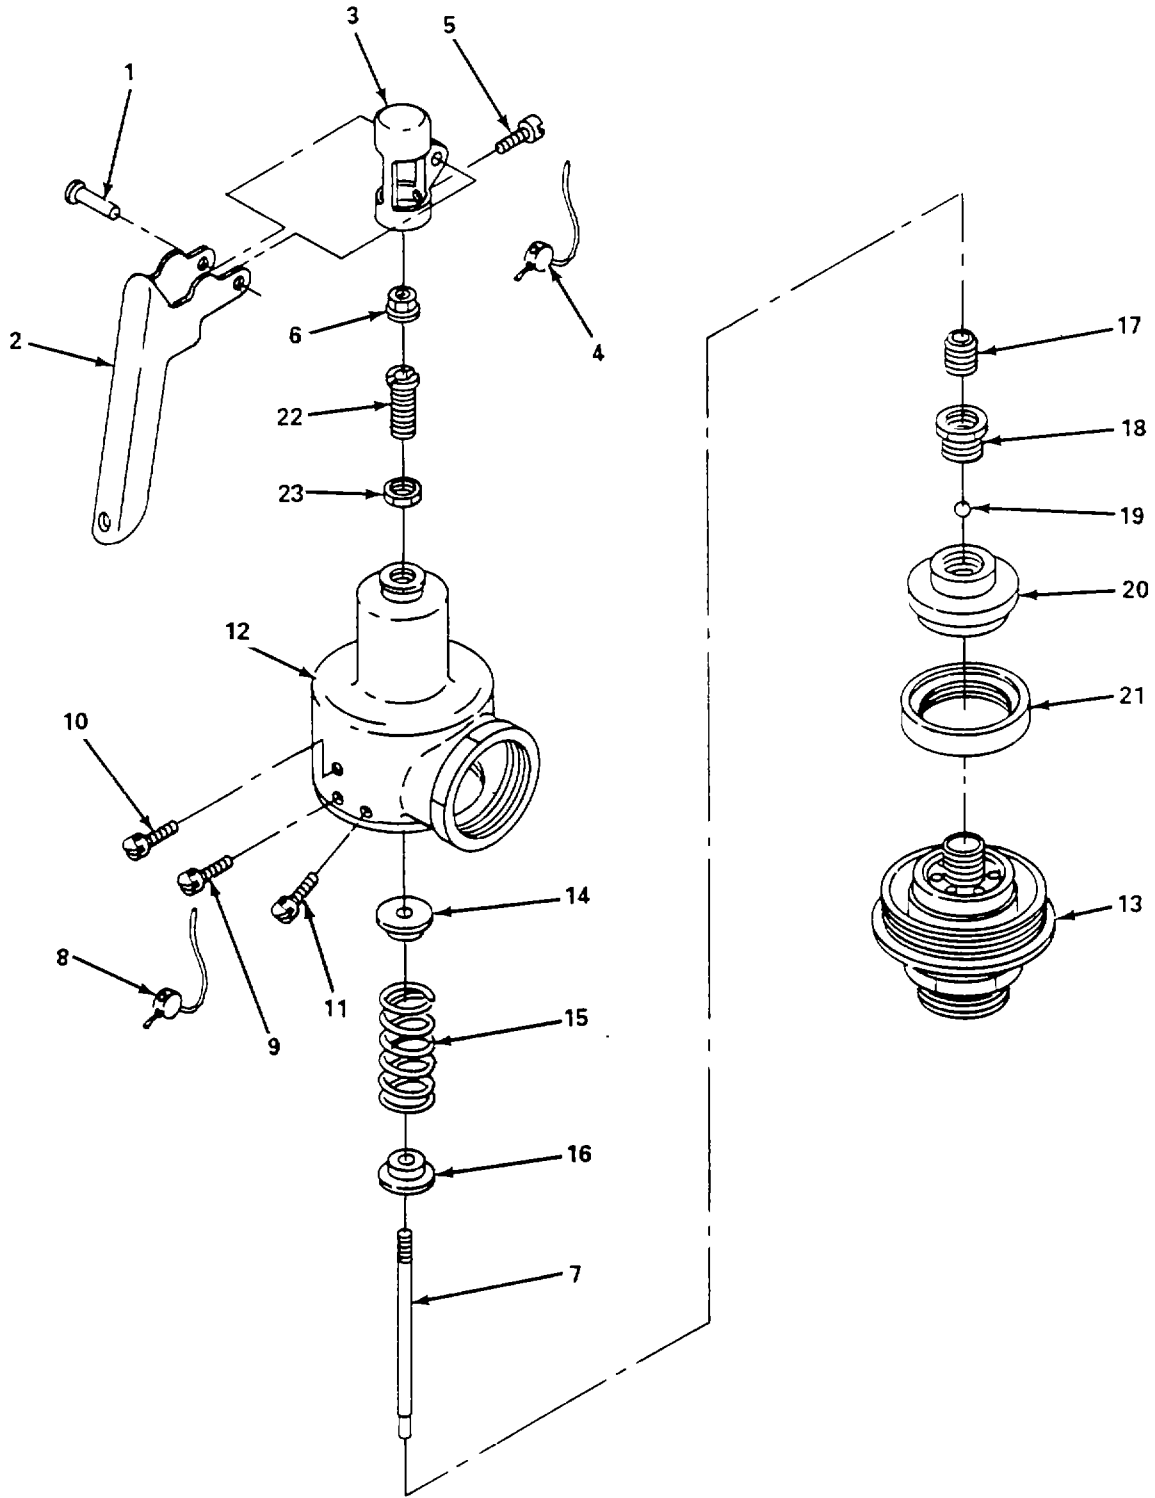

Figure 6-14. Pressure Relief Valve, Repair.
a. Repair. (figure 6-14)
- (1) Remove rivet (1) and lever (2) from left cap (3).
- (2) Remove seal (4), screw (5) and remove left cap (3).
- (3) Remove left nut (6) from stem (7).
- (4) Remove seal (8), screw (9), (10), and (11) from body (12).
- (5) Remove nozzle (13), top spring step (14), spring (15), and bottom spring step (16) from stem (7).
- (6) Remove stem (7) from nozzle (13).
- (7) Remove retainer (17), locknut retainer (18), ball (19), control ring (20), and ring (21) from nozzle (13).
- (8) Remove locknut compression screw (22) and locknut (23) from body (12).
- (9) Clean all components using nonionic detergent cleaner and rinse with clean distilled water.
- (10) Inspect all components and replace any component that is bent, cracked, worn or otherwise damaged.